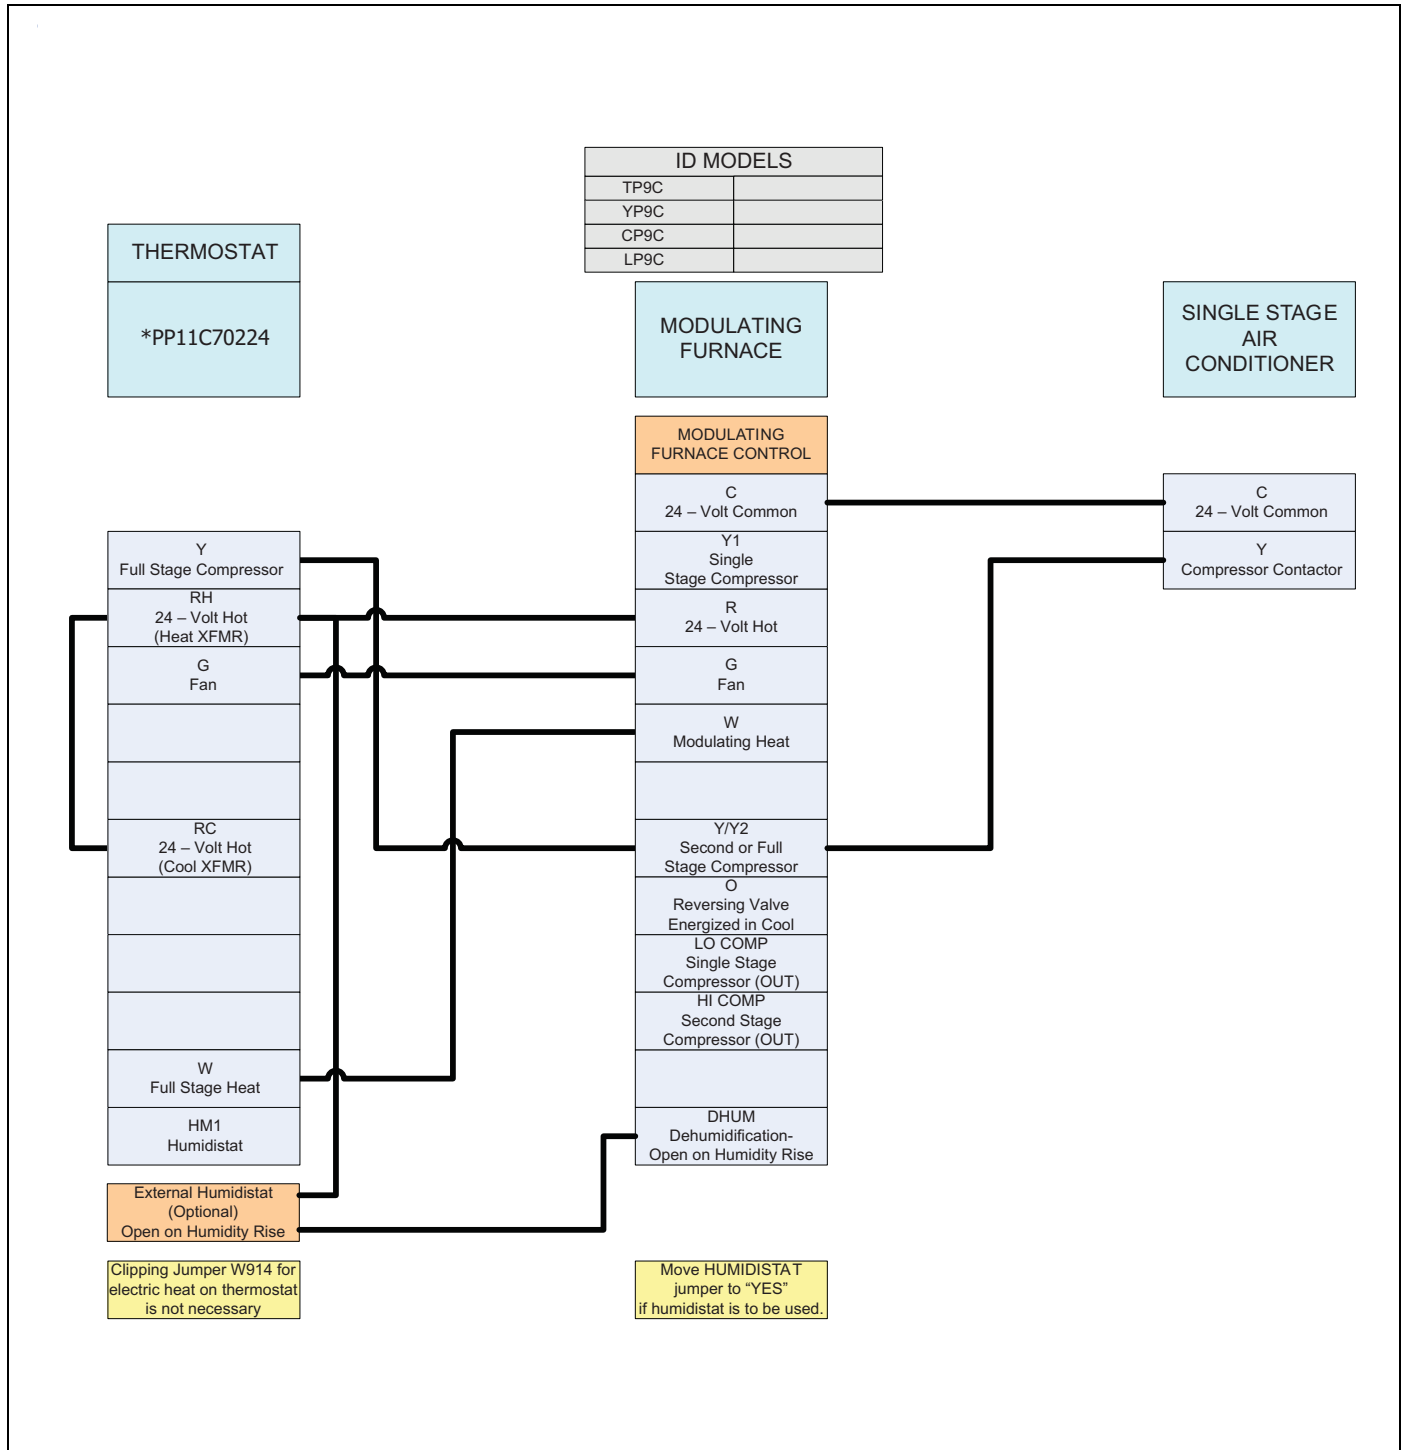

FIGURE 22: Thermostat Chart - Single Stage Air Conditioner – Variable Speed Modulating Furnace
**For Single-Stage A/C** - Connect the low voltage wiring as shown in Figure 22.